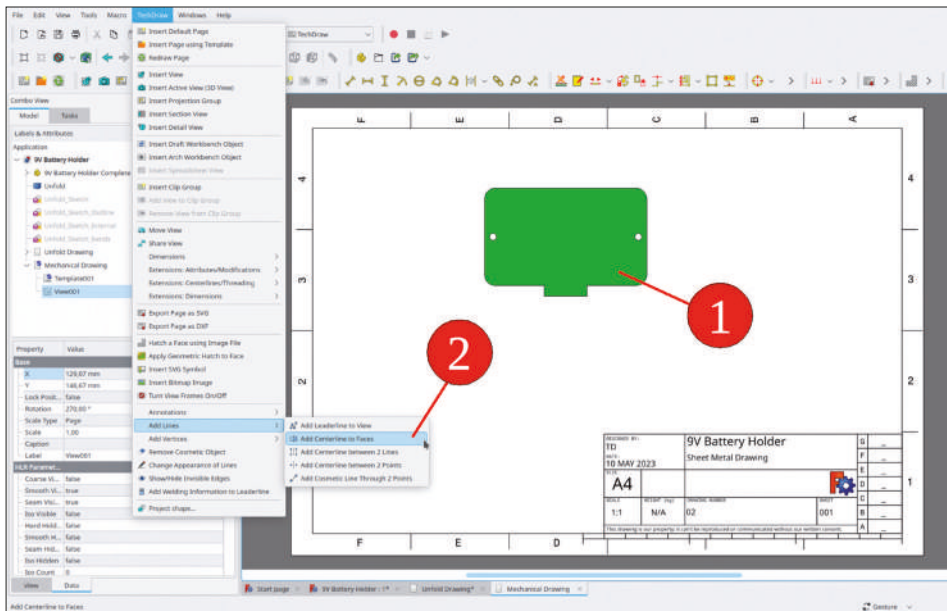

Figure 5-34
4. The part is symmetric. A symmetry line could deliver this information to the machinist. To add this line, click the part and select 'TechDraw | Add Lines | Add center line to faces' from the main menu (Figure 5-34).